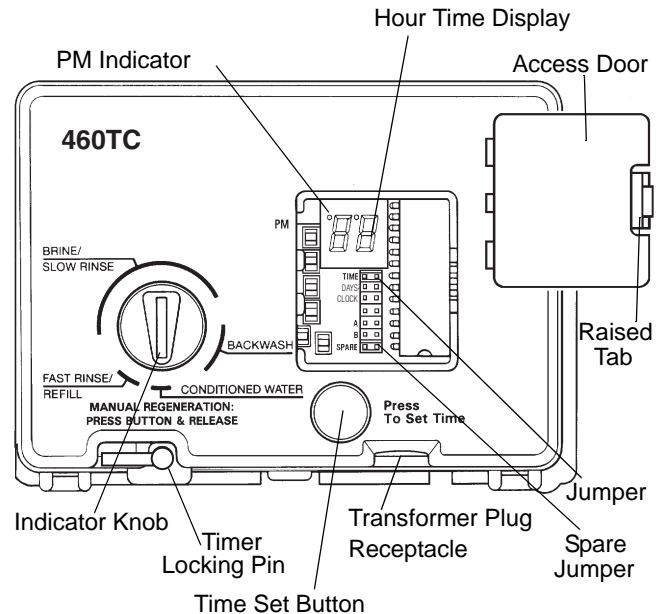

Figure 16
Open the access door by pushing the raised tab on the door toward the left while pulling the tab out (Figure 16).
Note: The **Timer Locking Pin** should always be horizontal (Figure 16) during operation.
4. Using a screwdriver, remove injector screen and injector cap (Figure 16).